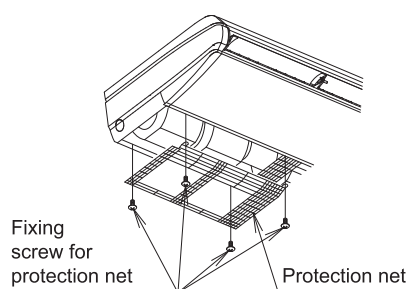
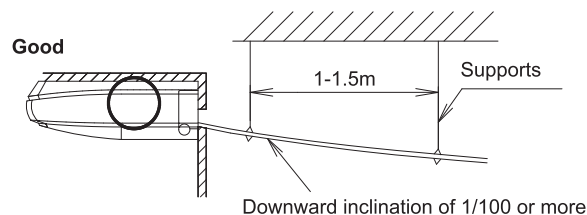
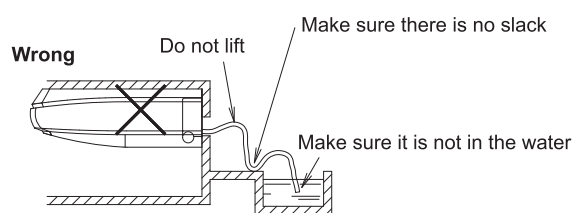

Fig. 21
Fig. 22
Fig. 23
- When conducting left rear/left side drain piping, remove the protection net. Then, remove the drain socket cap and insulation material applied to left side drain socket and apply them to the right side drain socket. When doing this, insert the drain socket cap all the way in to prevent a water leakage. After the drain hose (1) (accessory) installing, attach the protection net by reversing the steps taken to remove it. (Refer to Fig. 21)
- Select the piping diameter equal to or larger than that of the drain hose (1) (accessory) (polyvinyl chloride piping, nominal diameter 20mm, outside diameter 26mm).
- Install the drain piping as short as possible with downward inclination of 1/100 or more by avoiding air stagnation. (Refer to Fig. 22 and Fig. 23) (It may cause abnormal sound such as bubbling noise.)
- Install supports at a distance of 1 to 1.5m so that the piping may not deflect. (Refer to Fig. 22)